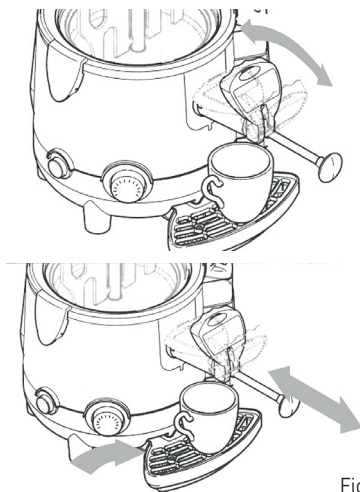

Fig. 1
- If the hot chocolate is passing too low, it is advisable to keep the rod pulled out to the maximum position; any clogging in the dispensing line may be removed by sliding the rod back and forth while keeping the machine, as shown in the Fig.1